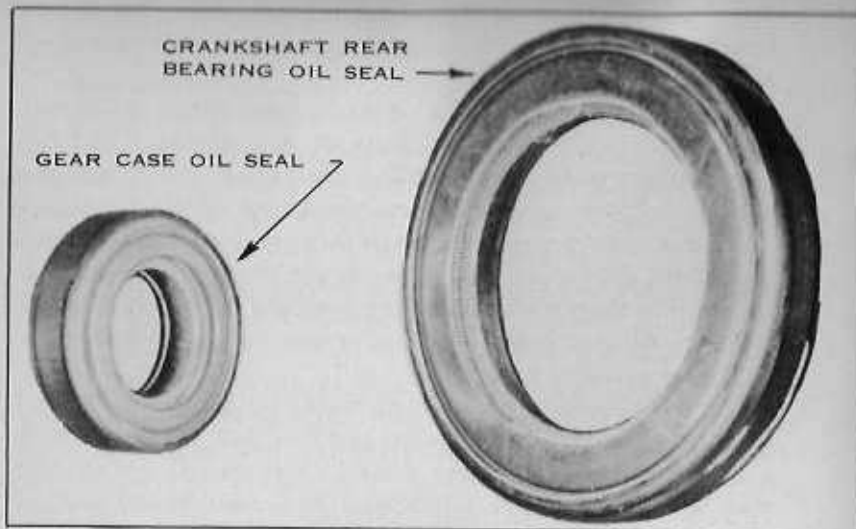

FIG. 34 OIL SEALS
- o. A new oil seal (See Fig. 34) should be installed in the gear case cover during each major overhaul before the cover is installed on the engine. Install the seal in the cover in the same manner as the rear seal was installed in the rear bearing plate. The surface of the shaft which will run inside the seal must be free of nicks and scratches. If necessary, polish the shaft with a strip of abrasive cloth, pulling the strip so as to polish around the shaft rather than lengthwise. The seal must be expanded very carefully as it is placed over the shaft. This may be done by wrapping a 1 in. wide piece of .002 in. thick feeder gage stock $1\frac{1}{4}$ times around the shaft in such manner that the ring of stock extends about $\frac{3}{4}$ in. beyond the end of the shaft and may be compressed sufficiently to enter the seal. Grease the outside of this material, starting the seal over the compressed end and sliding it carefully onto the shaft as the gear case cover is installed. When installing the gear case cover, turn the governor shaft counter-clockwise (looking at top of shaft) as far as it will go, and hold it in this position until the cover is located on the dowel pins.
After long use, various parts of the oil pump may become so worn as to require replacements. Excessive wear permits oil leakage within the pump and reduces the maximum oil pressure the pump will develop. The pump must be disassembled for examination. See Figs. 34 and 43.